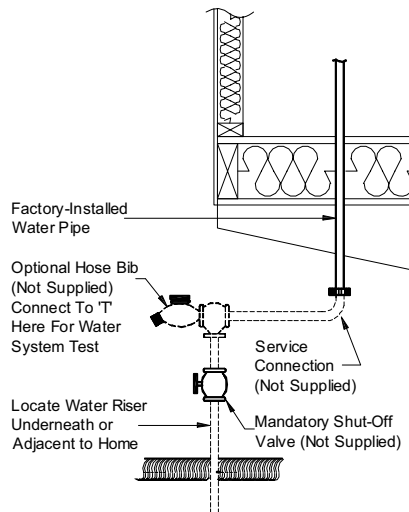

Figure 78. Water system connection
To connect the home's water system to the water source, identify the water inlet located under the home (usually below the water heater compartment or utility room) and follow the procedure described below (refer to **Figure 78**):
3. **Pressurize system.** Connect a hydrostatic pump, valve, and gauge to the location shown in **Figure 78**. Pressurize the system with water at 100 psi, and then isolate it from the pressure source. Bleed all air from the highest and farthest points in the system.